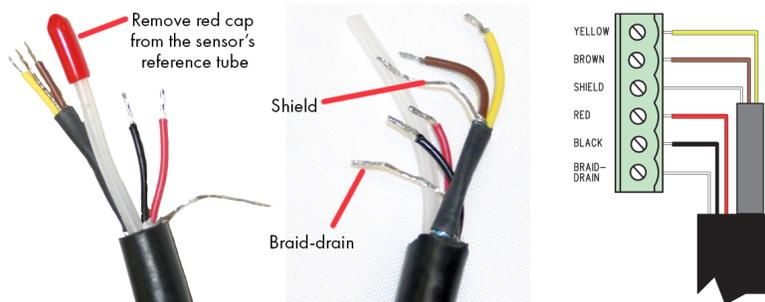
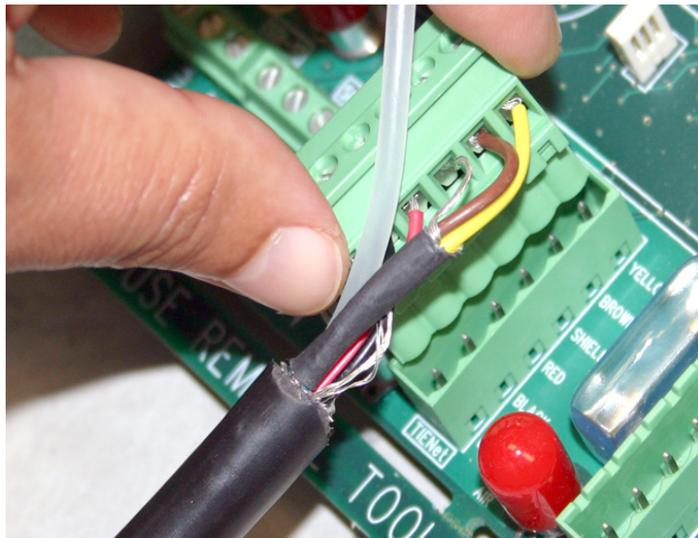

Figure 2-7 TIENet Device terminal connections
Figure 2-8 Attach wired terminal strip to case board socket
4. Attach the wire ends to the terminal strip as shown in Figure 2-7, then press the terminal strip back down into its socket on the case board, as shown in Figure 2-8, taking care not to strain any wire connections. Gently tug each wire when finished, to verify secure connection to the screw terminals.